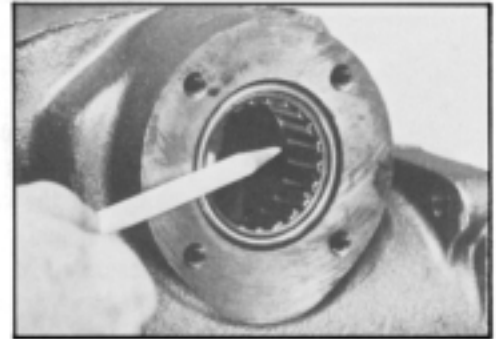

Figure 96
8. Inspect the housing bearing (57) and the side cover bearing for brinelling or spalling. SEE FIGURES 96 & 97. If either condition exists, replace the damaged housing bearing (57). For the housing bearing, follow disassembly step 37 and assembly step 1, pages 31 and 35. If the side cover bearing is damaged, replace side cover assembly (43).